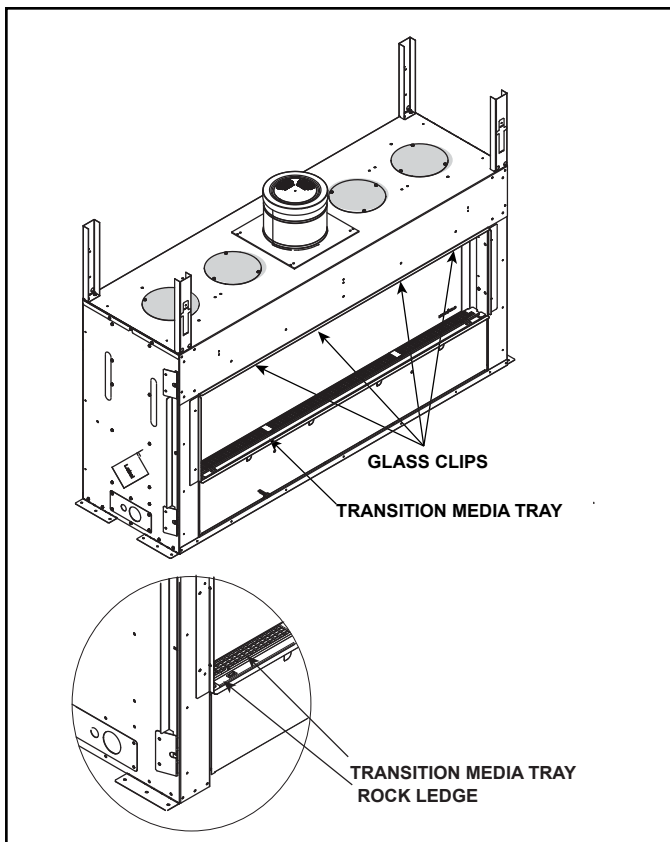

Figure 4.6 Location of Glass Clips and Transition Media Tray
1. Remove the transition media from the appliance. Lift the transition media tray out of appliance. Disconnect the wires that are connected to the reset switch. The transition media tray fits tightly, lift carefully. See Figure 4.6.
2. Locate the glass clips that are on the upper edge of the glass frame of the appliance. See Figure 4.6.